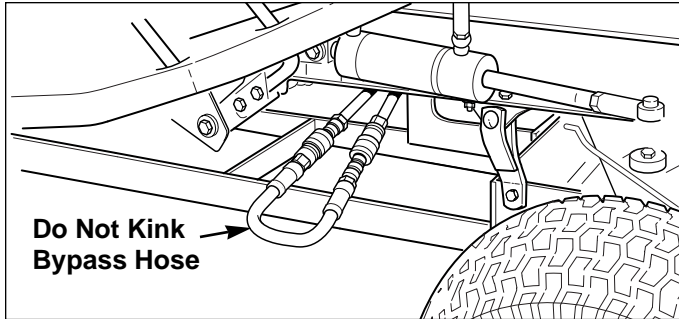
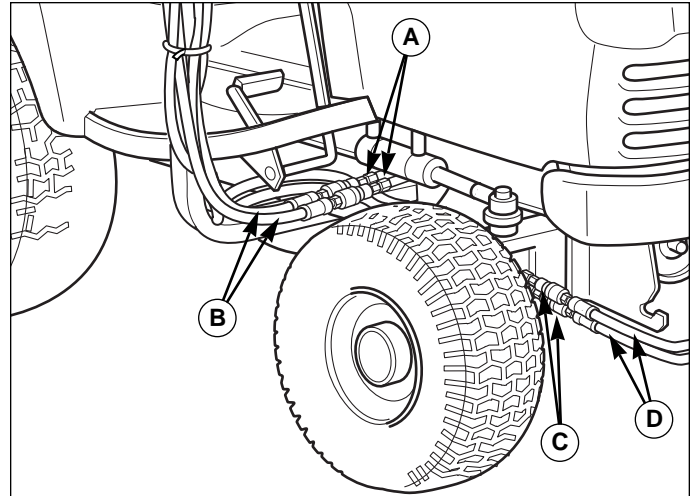

Figure 34. Install Bypass Hose
Figure 35. Disconnect Hydraulic Hoses
2. Disconnect the 1/2" (small) dozer hoses (D, Figure 35) from the 1/2" control valve hoses (C).
3. Connect the dozer hoses' (D, Figure 35) male and female quick connectors together. Also connect the 1/2" control valve hoses (C) to each other.
4. Disconnect the 23/32" (large) hoses (B, Figure 35) from the cross-over tubes (A).
5. Connect the 23/32" hoses (B) to each other.
6. Install the 1/2" x 11" bypass hose (Figure 34) in the cross-over tube quick connectors. You may need to spread the cross-over tubes apart to keep the bypass hose from kinking.
After removing the dozer blade, do not operate the tractor without first installing the the bypass hose (Figure 34).